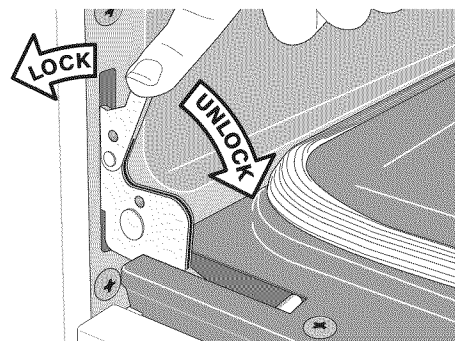

Figure 20: Door hinge locks
The interior oven light is located at the rear of the oven cavity. (See Figure 20).
2. Pull the door hinge locks on both left and right door hinges down from the oven frame completely toward the oven door (See Figure 20). A tool such as a small flat-blade screwdriver may be required.
4. Push the door hinge locks up toward and into the oven frame on both left and right oven door hinges to the locked position (Figure 20).